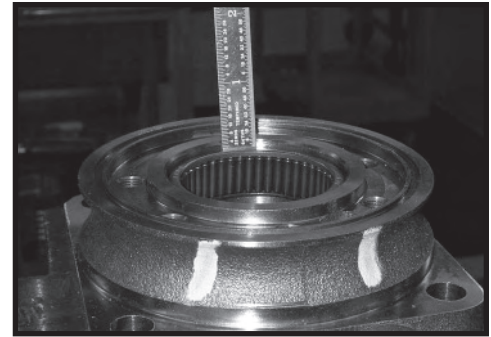

Figure 35
**CAUTION:** If the bearing mandrel specified in the “Tools and Materials Required for Servicing” section is not available and alternate methods are used to press in bearing/bushing (13) and (19) the bearing/bushing depths specified must be achieved to insure adequate bearing support and correct relationship to adjacent components when assembled. SEE FIGURE 35.
**CAUTION:** Because the bearing/bushings (13) and (19) have a press fit into the housing they must be discarded when removed. They must not be reused.